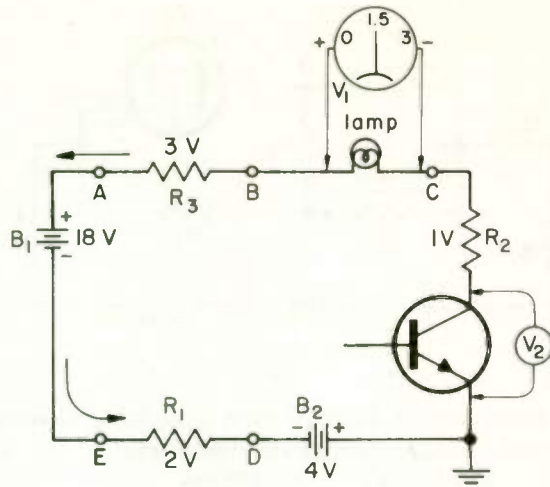

Fig. 45
10. The leads on all d-c voltmeters are marked + and - so that we can tell the polarity of the voltage across any component. A d-c voltmeter will not read if connected with polarity different from that of the voltage being read. The polarity of the 1.5 volts across the lamp in Fig. 45 is
- (1) the end of the resistor where the current enters is always positive and the end at which the current leaves is negative.
- (2) the end at which the current enters is always negative and the end at which the current leaves is positive.
12. To help you answer the following questions, mark on Fig. 45 the polarities of resistors R_1 , R_2 , and R_3 . If marked correctly your drawing will show for the 2 V across R_1 ,
- (1) voltage drop.
- (2) voltage rise.
14. Suppose that we walk around the circuit of Fig. 45 in the direction of current flow. We then find the voltage across resistor R_2 to be
- (1) the voltages across batteries B_1 and B_2 to be voltage rises.
- (2) the voltages across B_1 and B_2 to be voltage drops.
- (3) the voltage across B_1 to be a voltage rise and that across B_2 to be a voltage drop.
- (4) the voltage across B_1 to be a voltage drop and that across B_2 to be a voltage rise.
16. We can find the voltage between collector and emitter (which is the reading of voltmeter V_2) in Fig. 45 by
- (1) starting at point A (or any other point) and walking completely around the circuit back to the starting point, noting as you walk through each component whether it is a voltage rise or a voltage drop. Then apply the rule that the sum of the voltage rises must equal the sum of the voltage drops.
- (2) considering all batteries as voltage rises and all resistors as voltage drops. Then apply the rule that the sum of the voltage rises must equal the sum of the voltage drops.
17. Voltmeter V_2 in Fig. 45 reads
18. What will a voltmeter with leads properly connected between points A and C read in Fig. 45? *Hint:* Walk from C to A (or from A to C), combining voltages walked through as explained in Topic 4 of the lesson.
- (1) 1.5 volts (2) 3 volts (3) 4.5 volts (4) 6.5 volts
19. What is the voltage between point E and ground in Fig. 45? (That is, what will a voltmeter read if connected with one lead to ground and one to point E ?)
- (1) 2 volts (2) 4 volts (3) 6 volts (4) 12 volts
20. In reading the voltage between point E and ground in Fig. 45, you should connect the voltmeter leads so that
- (1) positive lead is to point E and negative lead to ground.
- (2) negative lead is to point E and positive lead to ground.
21. What is the voltage at point A with respect to ground in Fig. 45? (This means, what will a voltmeter read if connected with one lead at point A and the other lead to ground? Voltage read is considered positive if positive voltmeter lead is connected to point A , and negative if negative voltmeter lead is connected to point A .)